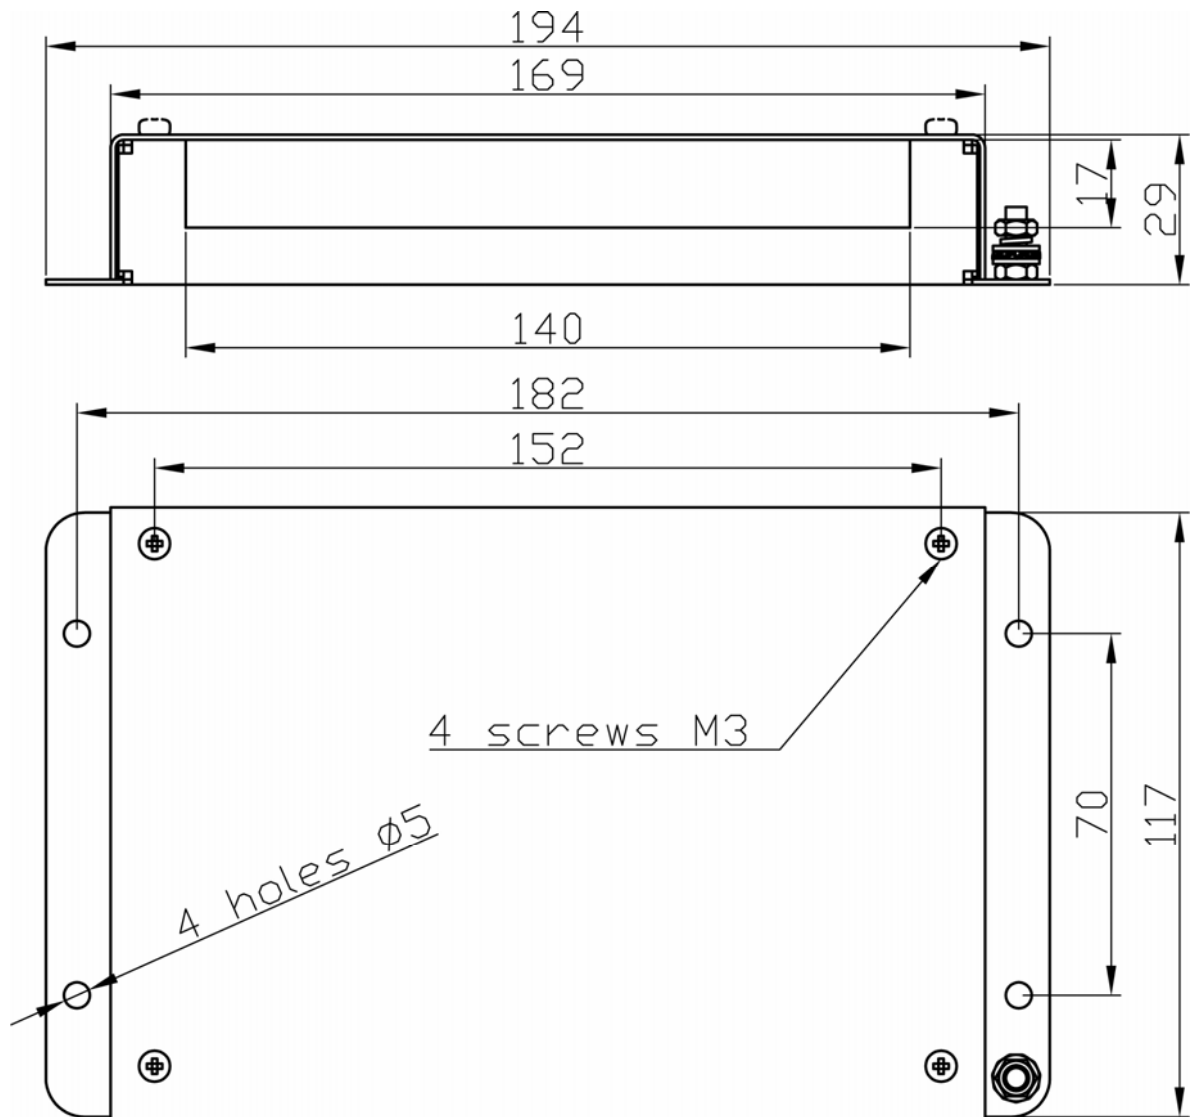

Figure 1 MDU-102 overall and setting-out sizes.
1. To set MDU-102 choose a place (a vertical wall or a mounting panel); use the outline drawing (see Figure 1).